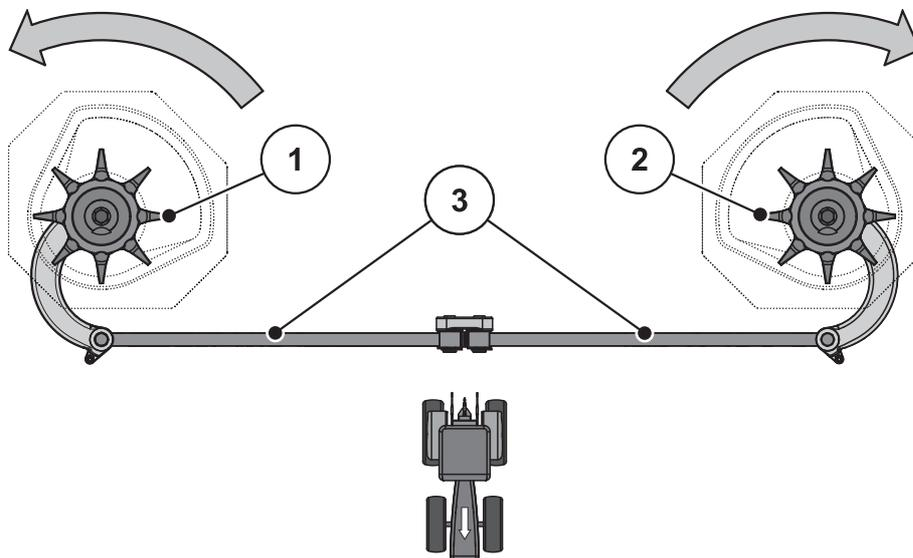

Figure 9.5: Checking the agitator drive
2. Manually turn the agitator head **into the rotational direction of the spreading disc**. See figure 9.5.
3. Turn the head manually or with the help of an oil filter belt forcefully **against the rotational direction of the spreading disc**. See figure 9.5.